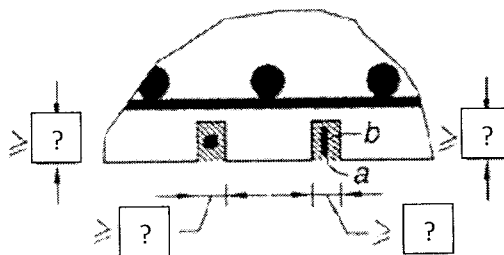

Figure 1
5. For the given figure 1, recommended the groove (or slot) dimensions if the CFRP strip reinforcement is 2mm x 6mm and the FRP bar is 6mm diameter. (C.O.No.4)[Knowledge]